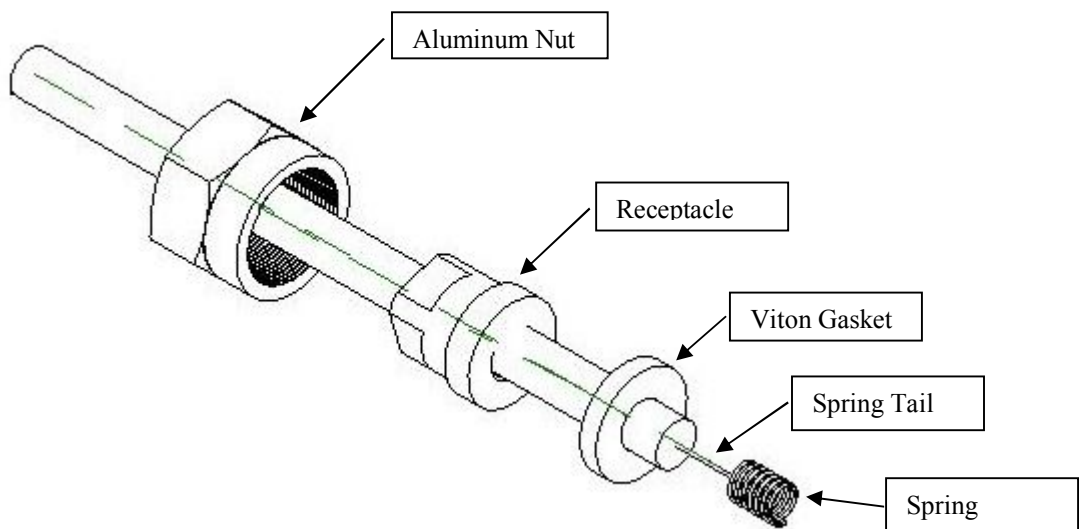

Figure 14: Spark Plug Wire Component Stack Up.
- iii. Slide the aluminum nut, receptacle, and Viton gasket on the wire. See Figure 14.